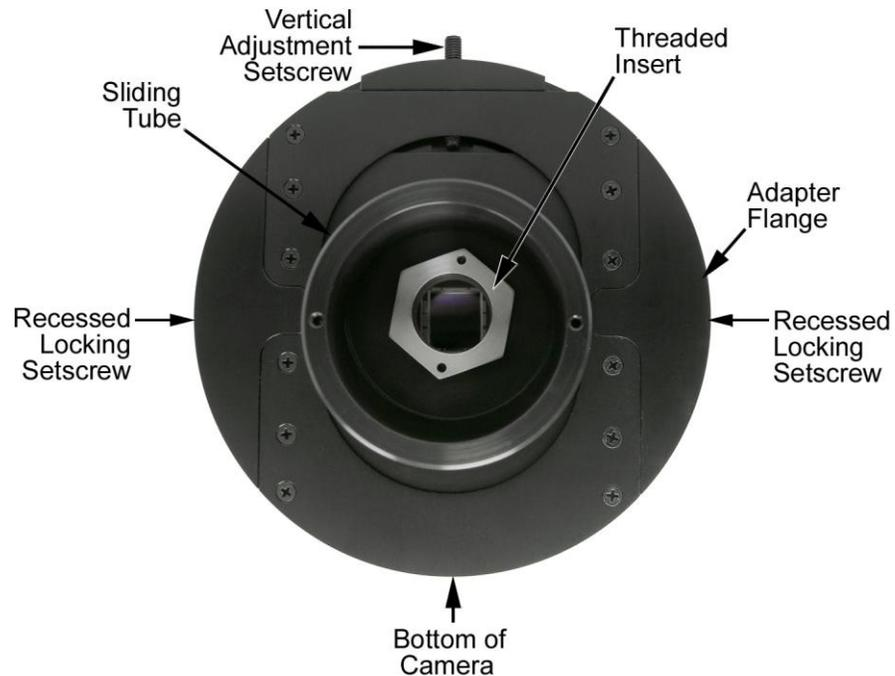

Figure 10. Adjustable C- to Spectroscopy-Mount Kinetics Adapter
The adjustable spectroscopy-mount kinetics adapter allows you to move the camera vertically at the exit plane of an Acton Series spectrograph in order to align the kinetics rows at the middle of the focal plane for the best spectral quality. The adapter is mounted to the front of a PIXIS camera and is secured to the camera by a threaded insert screwed into the camera's C-mount opening. Refer to Figure 10 when mounting the adapter to the camera.
2. Orient the adapter with the setscrew at the top (see Figure 10) and, using a spanner wrench or equivalent (distance between holes is 1.17" [29.7 mm]), tighten the threaded insert into the C-mount opening on the camera.